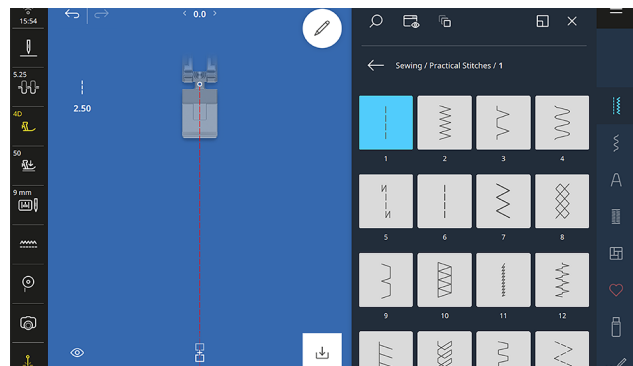

Fig. 8
3. Select #4D from the filtered list to the left. The Stitch Altering Area now shows the correct presser foot and the stitch in red (Fig. 8).